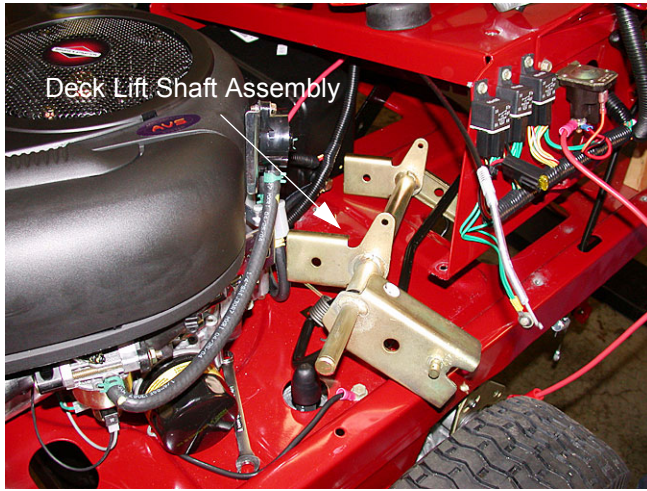

Figure 17.19
17.19. From this point the deck lift shaft and deck lift handle will slip out of the rear of the unit where the battery was. See Figure 17.19.